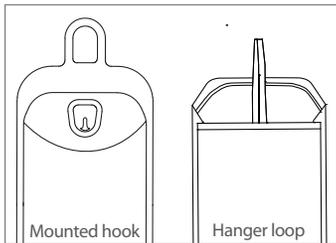

FIGURE 1
1. Remove pressure infusion bag from package, unfold pressure bag and hang pressure bag on to IV pole by the loop located at the top of the pressure bag. (Figure 1)
2. Insert intravenous bag between panel and pressure bag. (Figure 1)